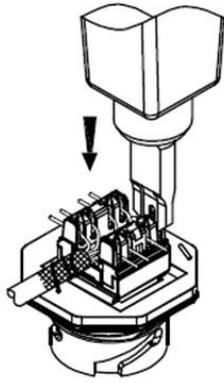

Fig.2
- a. Terminate each pair into the corresponding IDT contacts using the 110 punch down tool (Fig 2 & 3). Keep the pairs twisted as close as possible to the IDT towers allowing a maximum of 6mm untwist.